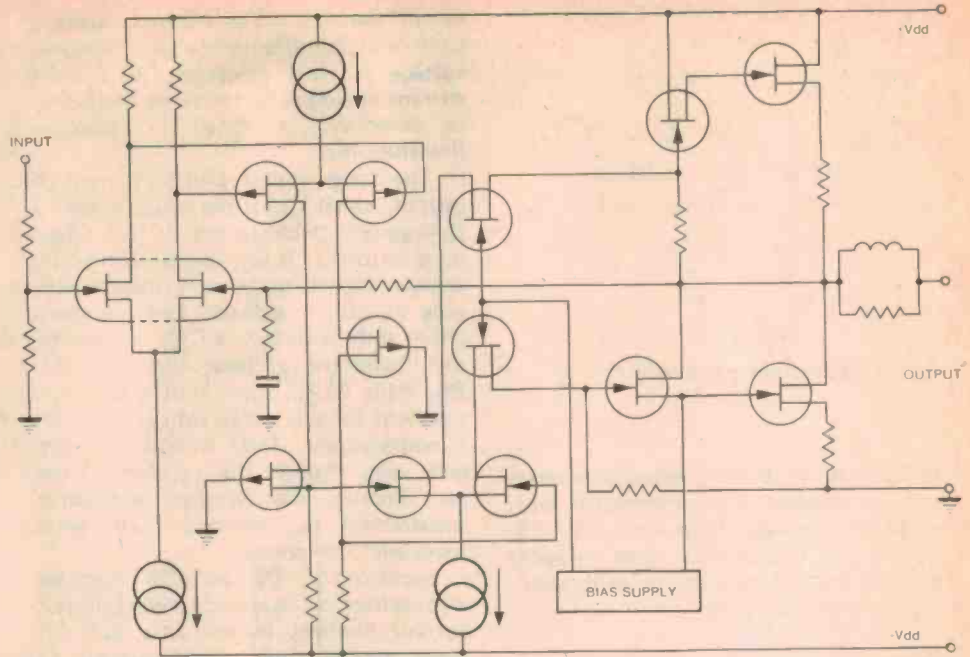

Fig. 16 Simplified Yamaha VFET amplifier diagram.
A simplified version of Yamaha's B1 amplifier is shown in Fig. 16, (8). In this circuit a cascade drive system is used, but in a differential form with the constant current source in the